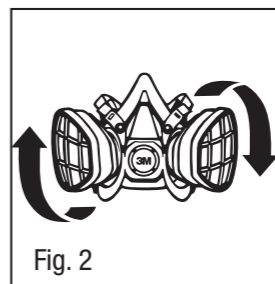

Fig. 2
- Turn cartridge clockwise to stop (1/4 turn) (Fig. 2).